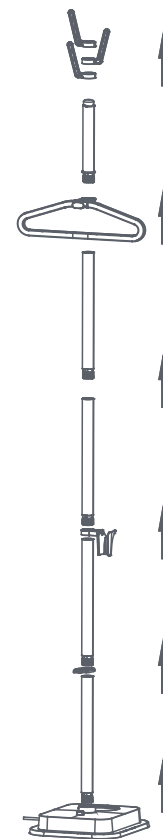

Fig. 14
(1) Firstly, detach the coat rack.
(2) Unscrew the support pole and telescopic poles from top to bottom, and then remove the coat hanger and ironing head support (see Fig. 14).